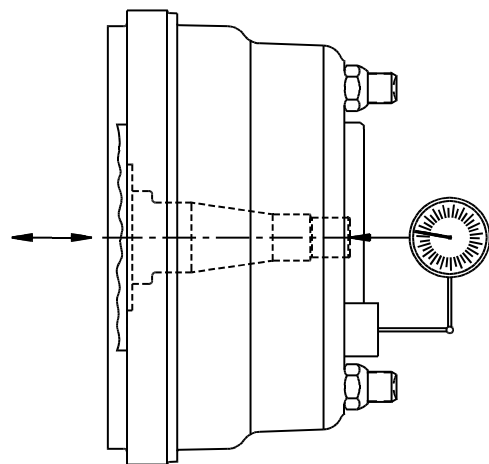

Figure 10 - Wheel End Play Measurement
4. Place the tip of the dial indicator on the center of the steering knuckle spindle. Set the dial indicator on zero. (Figure 10).